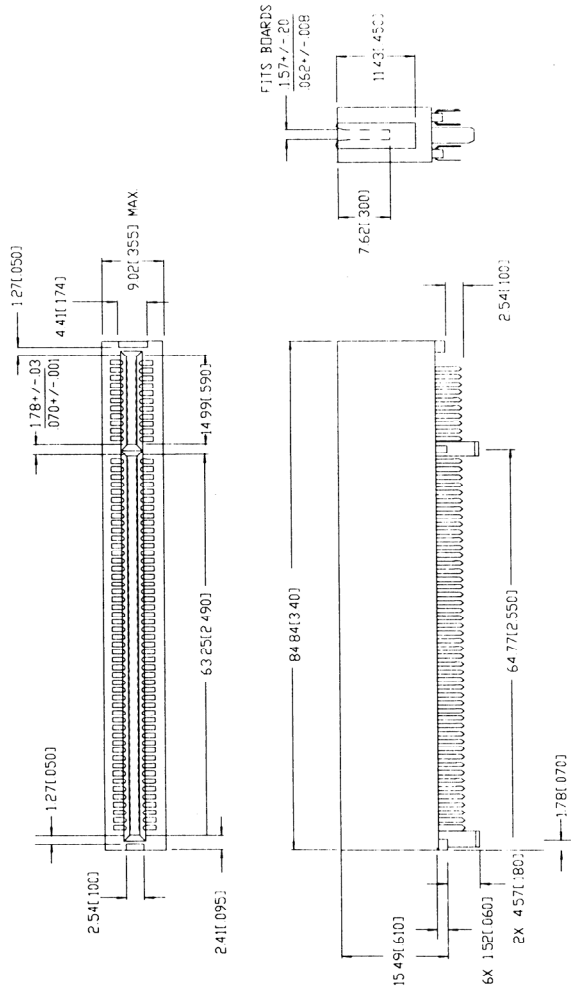

Figure 5-13: 32-bit Connector
Figure 5-13 is incorrect.
- The 4.57(.180) dimension should be measured from the bottom of the spacer as in figure 5-13. In the top view of figure 5-30 the dimension 58.17 [2.290] is correct but it is shown extending beyond the end of the connector. It needs to point to the end of the slot in the connector.